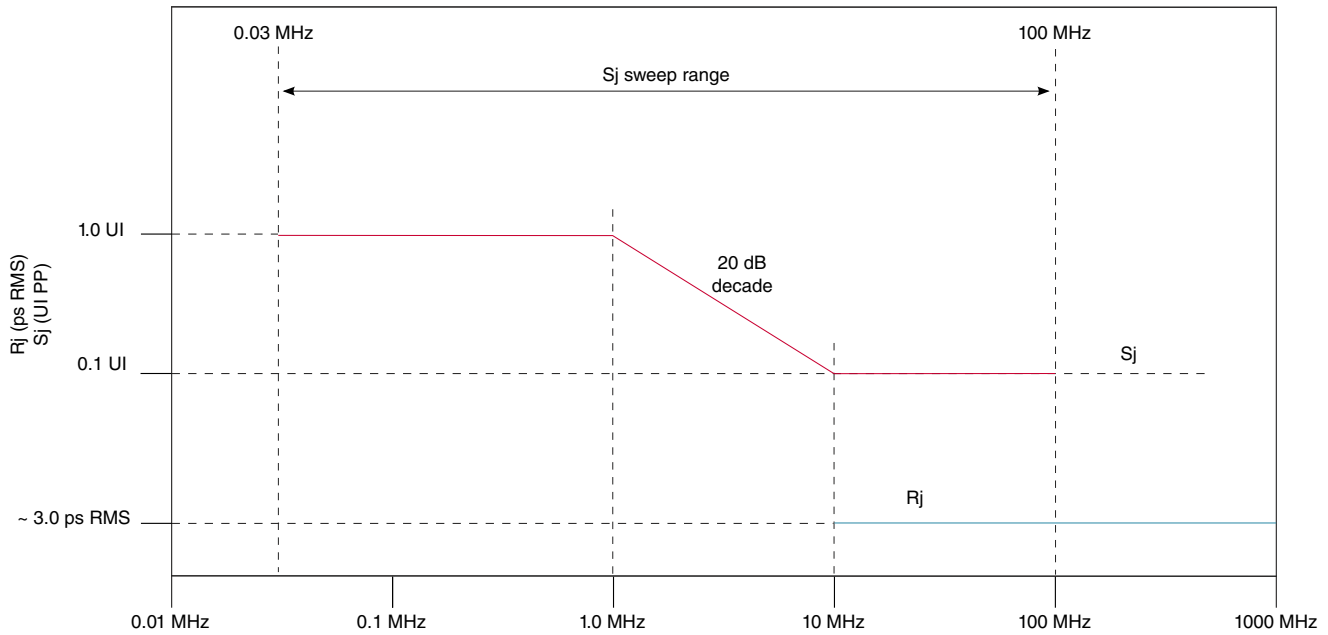

Figure 40. Swept sinusoidal jitter mask
3. The sinusoidal jitter in the total jitter tolerance may have any amplitude and frequency as shown in Figure 40 .
4. Random jitter (Rj) is applied over the following range: The low frequency limit may be between 1.5 and 10 MHz, and the upper limit is 1.0 GHz. See Figure 40 for details. Rj may be adjusted to meet the 0.3 UI value for T _{RX-SV-8G} .